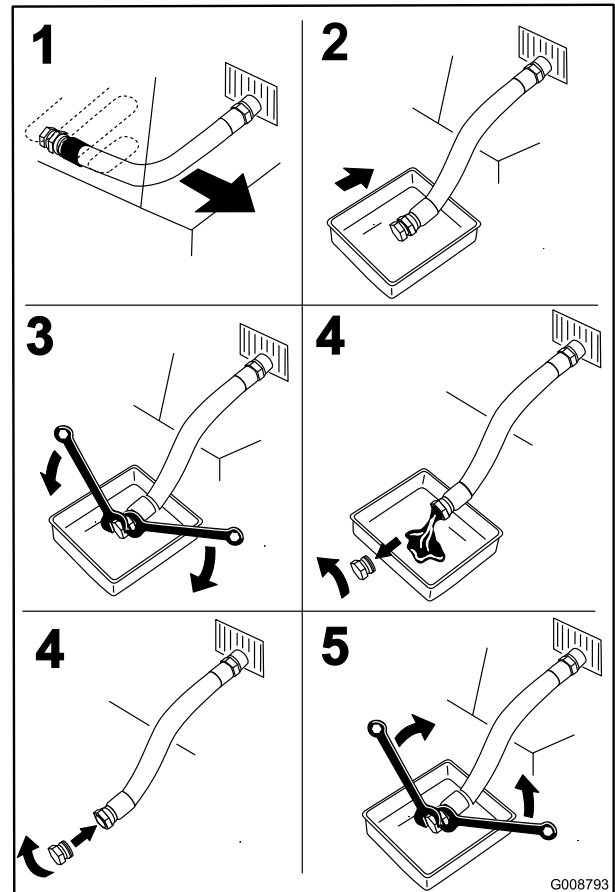

Figure 49
4. Stop the engine, remove the key, and wait for all moving parts to stop before leaving the operating position (Figure 49).